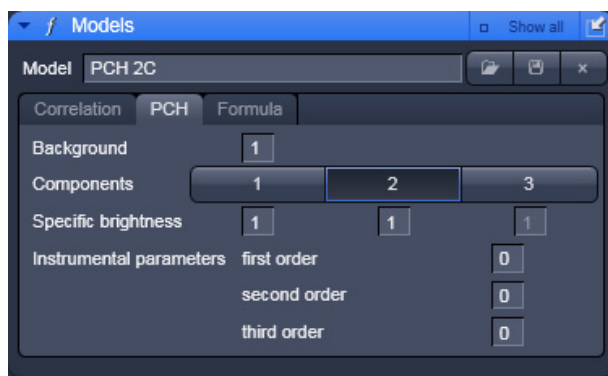

Fig. 72 Model panel, PCH tab
- Click on the **PCH** tab to open the PCH control panel (Fig. 72). Click on any other register to leave the panel.